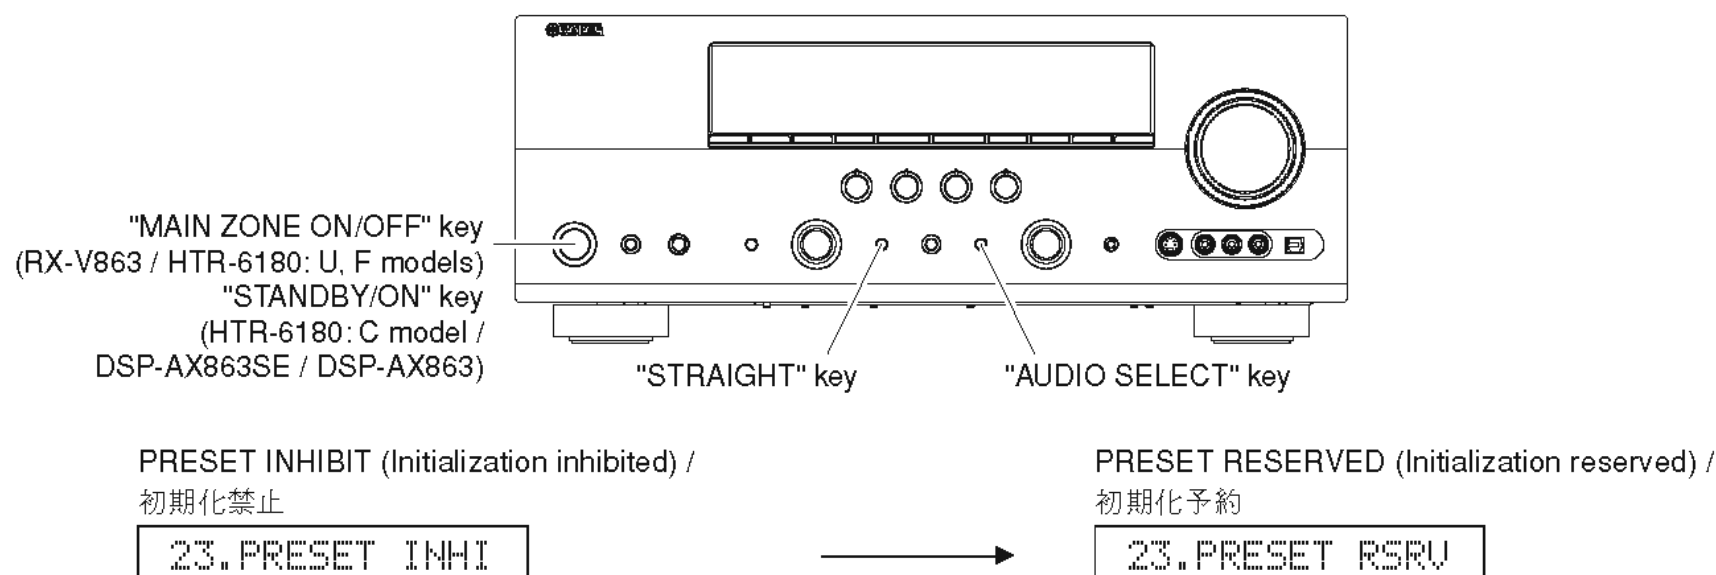

Fig. 7
2. Press the "MAIN ZONE ON/OFF" (RX-V863 / HTR-6180: U, F models) / "STANDBY/ON" (HTR-6180: C model / DSP-AX863SE) key while simultaneously pressing the "STRAIGHT" and "AUDIO SELECT" keys. (Fig. 7)
2. "STRAIGHT"キーと"AUDIO SELECT"キーを押しながら、"STANDBY/ON"キーを押し、ダイアグを起動します。(Fig. 7)